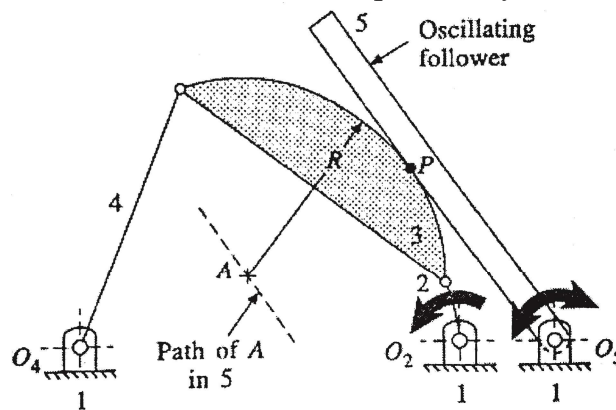

Fig. Q.2 (a)
- Q2) a)** What are equivalent linkages? Discuss the need of the same also state its limitation. Fig. Q.2 (a) shows generalized cam mechanism. Find out an equivalent mechanism with lower pairs only. [5]